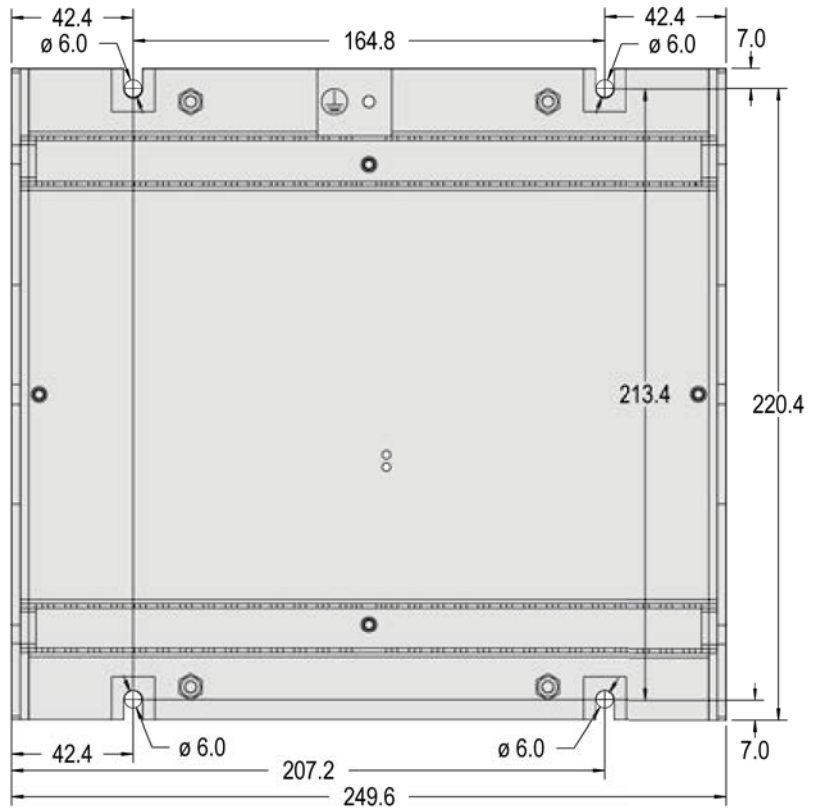

Fig. 8: Sheet metal housing - drill plan
1. Drill the holes according to the dimensions in Fig. 8 (dimensions shown in mm).